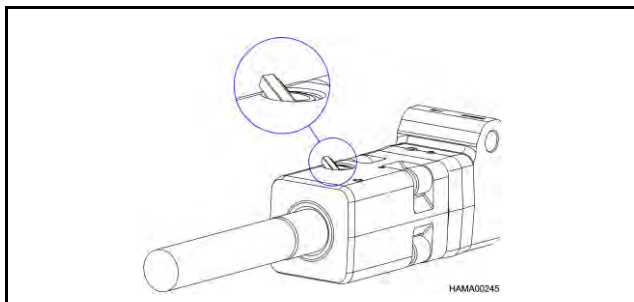

Figure 4
- a. While deforming the retaining ring as shown in Figure 4, partially force it into the groove.